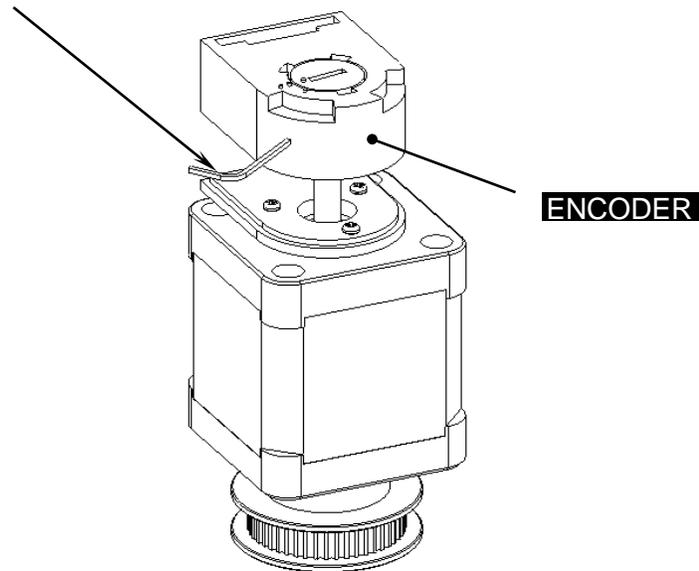

Figure 9-18: Placing Encoder on Motor
1. Attach the encoder mounting plate to the motor using the Encoder Mounting jig (DSXFIX015) and the 3 M1.6x6 Pan Head Screws. Ensure that the mounting plate is centralized around the pulley idler shaft (Figure 9-18).
Note: Do not remove the Allen key in the encoder (Figure 9-18).